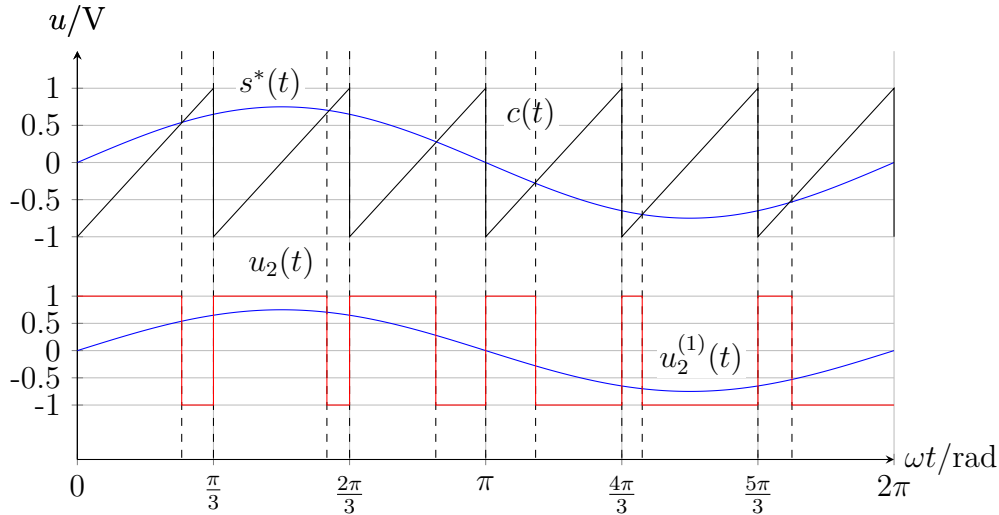

Figure 7.1.2: Output voltage $u_2(t)$ and fundamental voltage component $u_2^{(1)}(t)$.
7.1.1 Draw the converter's output voltage $u_2(t)$ belonging to Fig. 7.1.2. and its fundamental component $u_2^{(1)}(t)$. How large is the phase difference φ_{2i} of the voltage fundamental component $u_2^{(1)}(t)$ compared to the internal load voltage $u_{2i}(t)$?
Considering the modulation in Fig. 7.1.2, the output voltage $u_2(t)$ can either be $+U_1$ or $-U_1$ based on the maximum between the carrier signal $c(t)$ and reference $s^*(t)$, as shown in the figure. Moreover, the amplitude of the fundamental component $u_2^{(1)}(t)$ of the output voltage can be calculated using the modulation index m as: